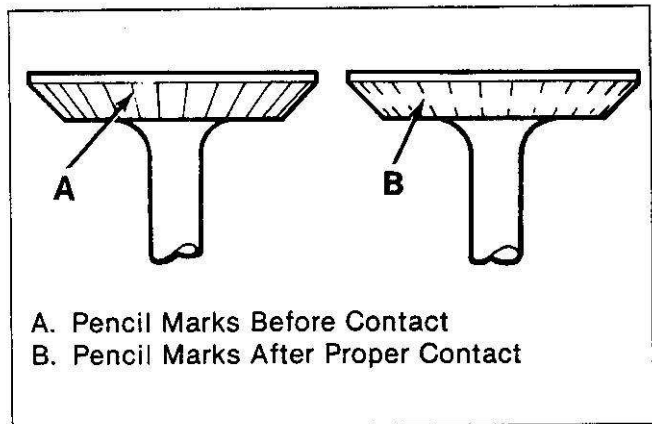

Figure 41. Valve Face Contact Pattern
4. Inspect the valve face. The valve seat width should be 1.5 mm (0.059 in), as indicated by the mark on the valve face. The contact area should be centered on the valve face (figure 41).